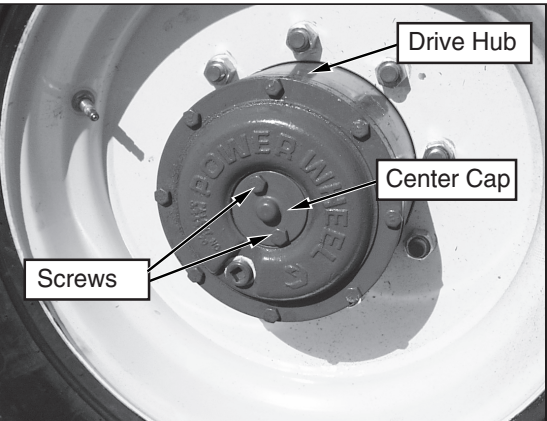

Figure 7: Drive Hub (Operating position shown)
- Refer to figure 7 and disengage all four drive hubs. Remove two (2) cap screws and center cap. Reinstall center cap in the opposite direction.